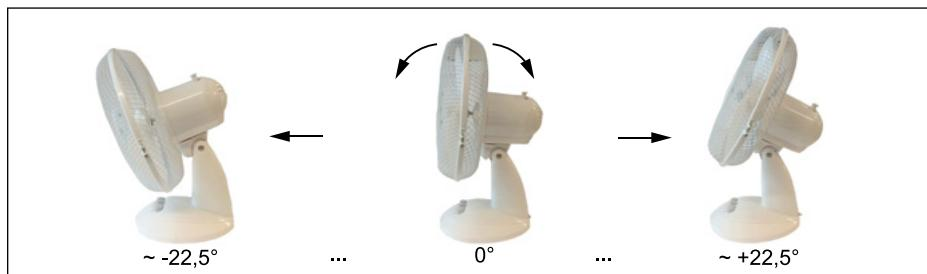

Fig.18: Adjusting the angle of inclination
1. Hold the fan only by the plinth (18, fig. 18) and place it on a dust-free, stable and horizontal surface.